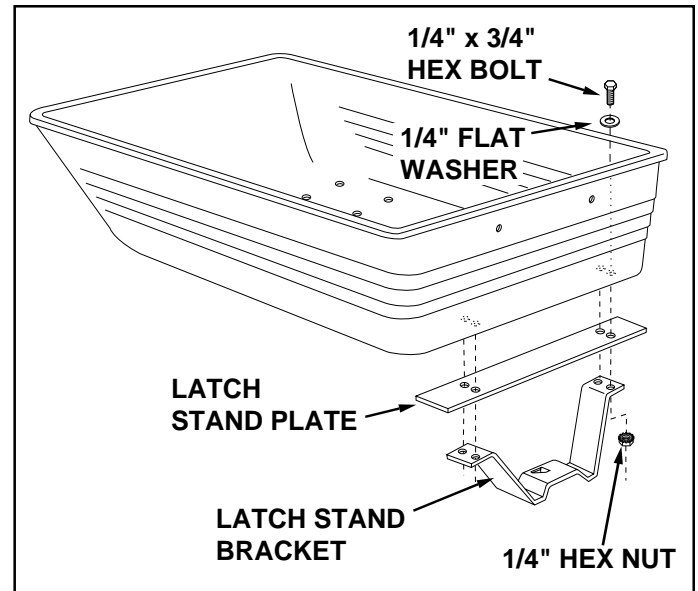

FIGURE 6
9. Assemble the latch stand plate and the latch stand bracket to the bottom of the poly tray using four 1/4" x 3/4" hex bolts, 1/4" flat washers and 1/4" hex nuts. The aligning tab on the bottom of the latch stand bracket must be towards the rear of the cart. **Tighten.** See figure 6.